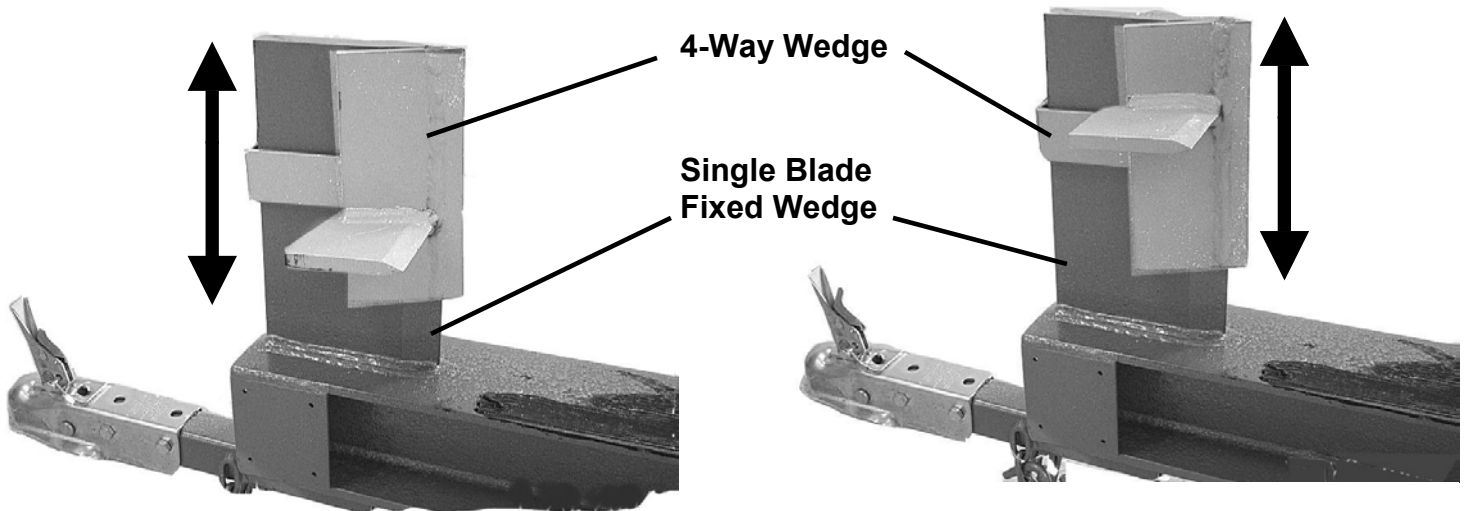

Figure 13
The following procedure is for the installation of the optional Four-Way Wedge (*Figure 13*) for the DR 20-Ton WOOD SPLITTER.
- The fixed wedge also serves as a mounting for the optional Four-way Wedge (*Figure 13*).
- To vary the size of the resulting split pieces of wood, simply turn the Four-way Wedge over and slip it back on the fixed wedge (*Figure 13*).
1. The optional Four-Way Wedge can be installed with either end up. The installed position determines height of split cross pieces (*Figure 13* on page 15).